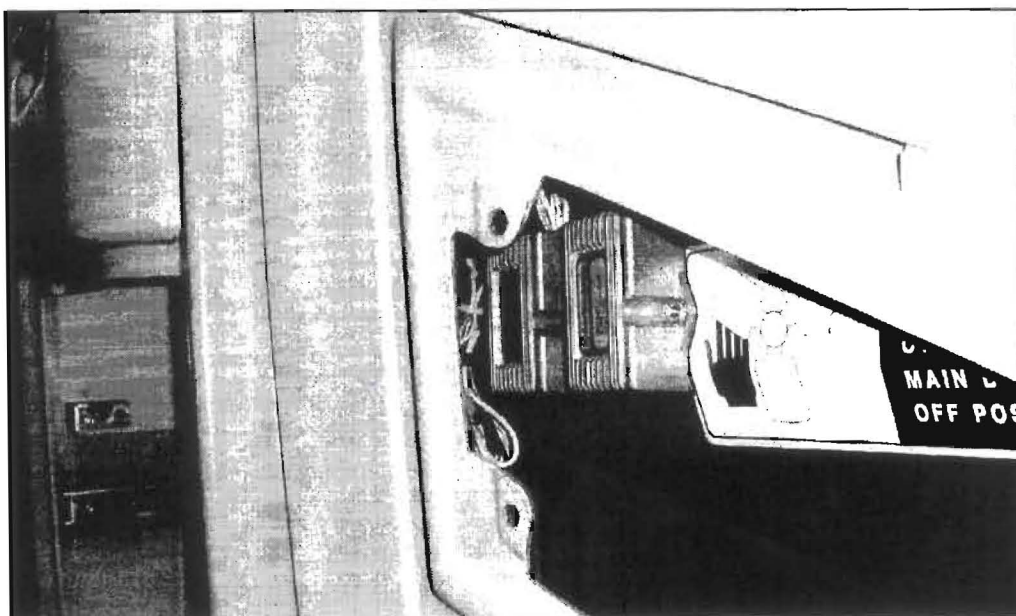

Figure 11.
17. Using tyrap (part number 19-11-258), bundle the harnesses and wires (Figure 11).
Access to the top, roadside mounting stud for the stepwell panel will be blocked by the new motor drive module installation. Access can be gained through the driver's drawer (Figure 11).